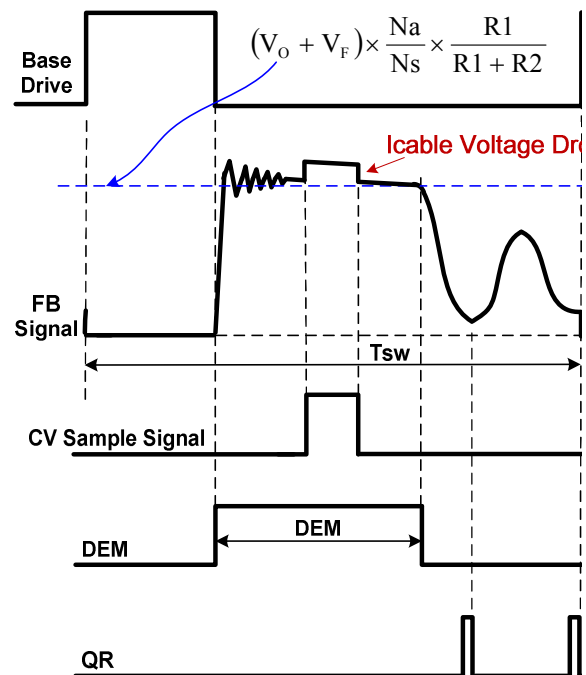

Fig.2
In Primary Side Regulation (PSR) control, the output voltage is sensed on the auxiliary winding during the transfer of transformer energy to the secondary. Fig.2 illustrates the timing waveform of CV sampling signal, demagnetization signal (DEM) and quasi-resonant (QR) trigger signal in DP220X. When the CV sampling process is over, the internal sample/hold (S&H) circuit captures the error signal and amplifies it through the internal Error Amplifier (EA). The output of EA is sent to the Quasi Resonant PSR CV Modulator (QR-CVM) for CV regulation. A valley is selected to trigger new PWM cycle by the output of the QR-CVM block, which is determined by the load. The internal reference voltage for EA is trimmed to 1.25V with high accuracy.
During the CV sampling process, an internal variable current source is flowing to FB pin for Cable Drop Compensation (CDC). Thus, there is a step at FB pin in the transformer demagnetization process, as shown in Fig.2. Fig.2 also illustrates the equation for “demagnetization plateau”, where V_o and V_F is the output voltage and diode forward voltage;